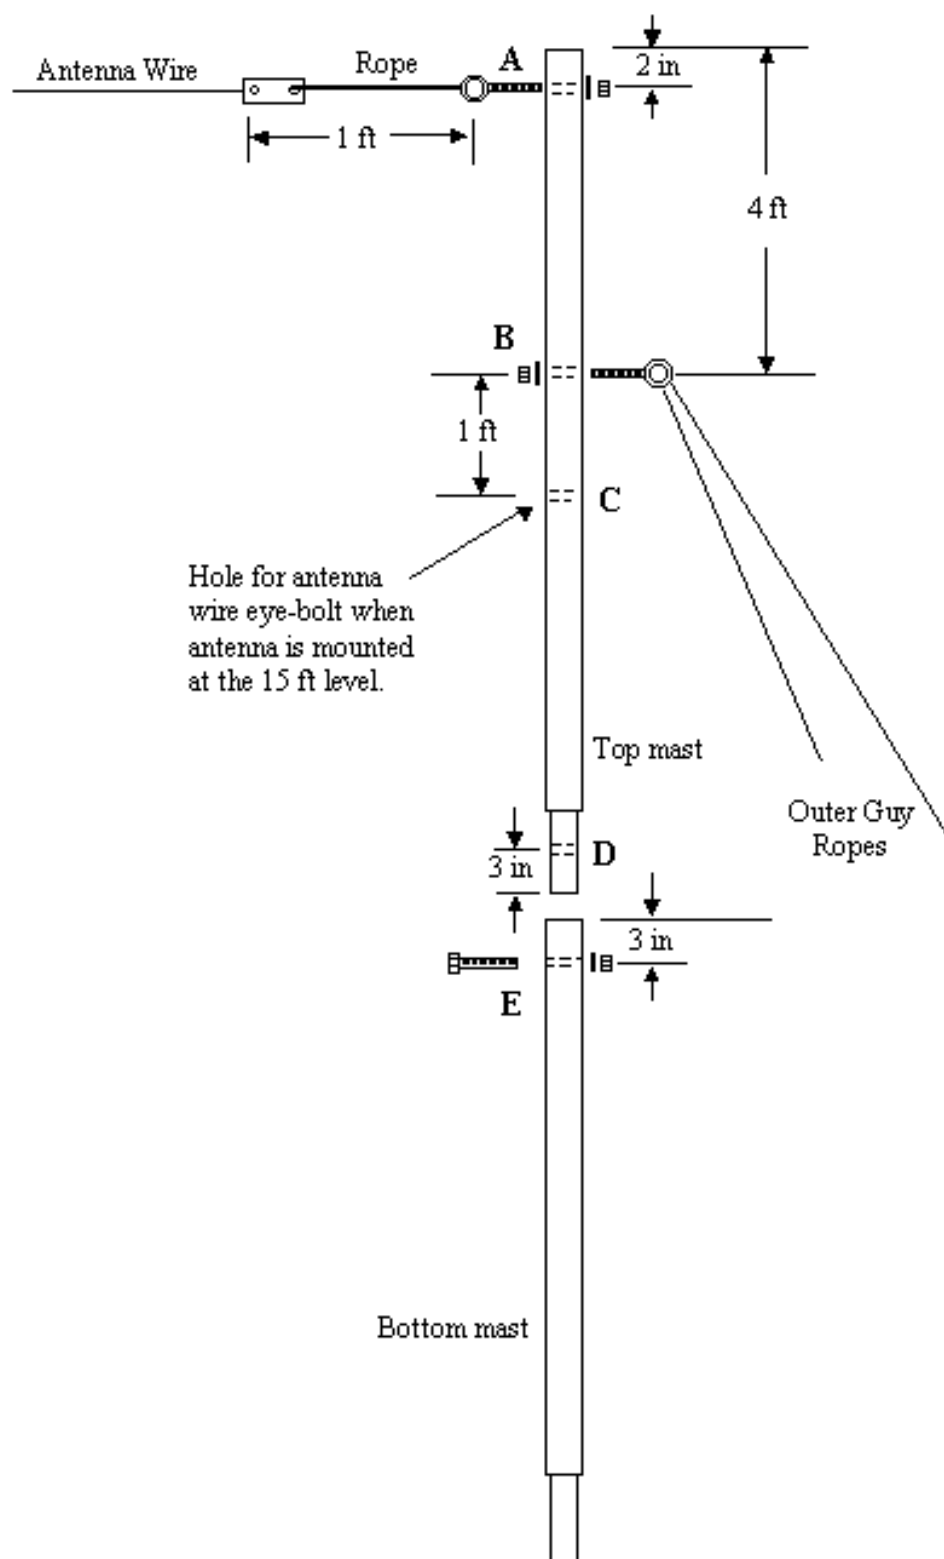

Figure 6.4. Metal Mast Assembly.
6.4. Metal Mast Assembly (Refer to Figures 6.4 and 6.5)
2. O **Refer to Figure 6.4.** *All holes through the masts are 1/4 inch diameter.* A hammer and punch (or nail) can be used to make a starting point for drilling. A pilot hole using a 1/8 in drill bit is recommended. Eyebolts and bolts should be secured using a flat washer, lock washer and a nut. All holes in the top mast should be in the same plane.
4. O Drill hole (E) thru the bottom mast.
5. O Insert the top mast section 6 inches into the bottom mast section. Using hole (E) as a guide, match-drill a hole though the top mast section – this becomes hole (D). The best way to match-drill the holes is to drill the inner mast from each side – using hole E as a guide. Then without moving the two masts relative to each other, run the drill all the way thru both masts
6. O Secure eyebolt in hole (B).
- 9a. O For a 20-foot high antenna attach the antenna eyebolt at hole (A).
- 9b. O For a 15-foot high antenna attach the antenna eyebolt at hole (C).
- B. *For the metal mast installation refer to Figures 6.4 and 6.5.* Cut 8 ropes to 21 feet. Attach 2 ropes to each of the eyebolts at the 16 ft level (hole B).